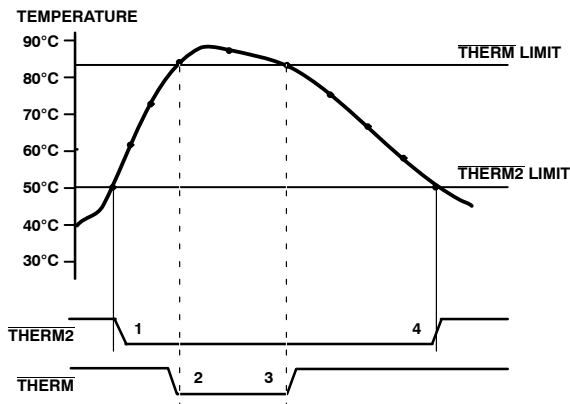

Figure 20. Operation of the $\overline{\text{THERM}}$ and $\overline{\text{THERM2}}$ Interrupts
Figure 20 shows how THERM and THERM2 operate together to implement two methods of cooling the system. In this example, the THERM2 limits are set lower than the THERM limits. The THERM2 output is used to turn on a fan. If the temperature continues to rise and exceeds the THERM limits, the THERM output provides additional cooling by throttling the CPU.
- The $\overline{\text{THERM}}$ output deasserts (goes high) when the temperature falls to $\overline{\text{THERM}}$ limit minus hysteresis. In Figure 20, there is no hysteresis value shown.